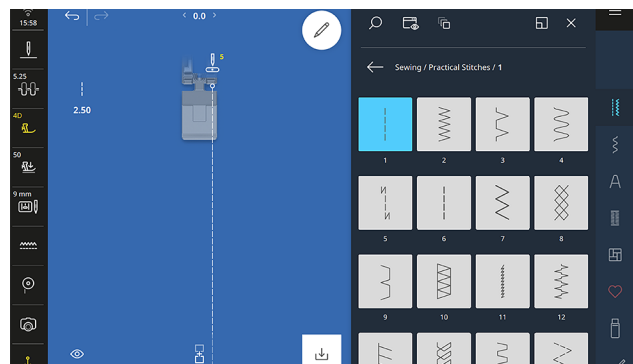

Fig. 9
4. Move the Needle Position to the Left, then Right. Notice that the stitch changes to white when it clears the foot (Fig. 9).